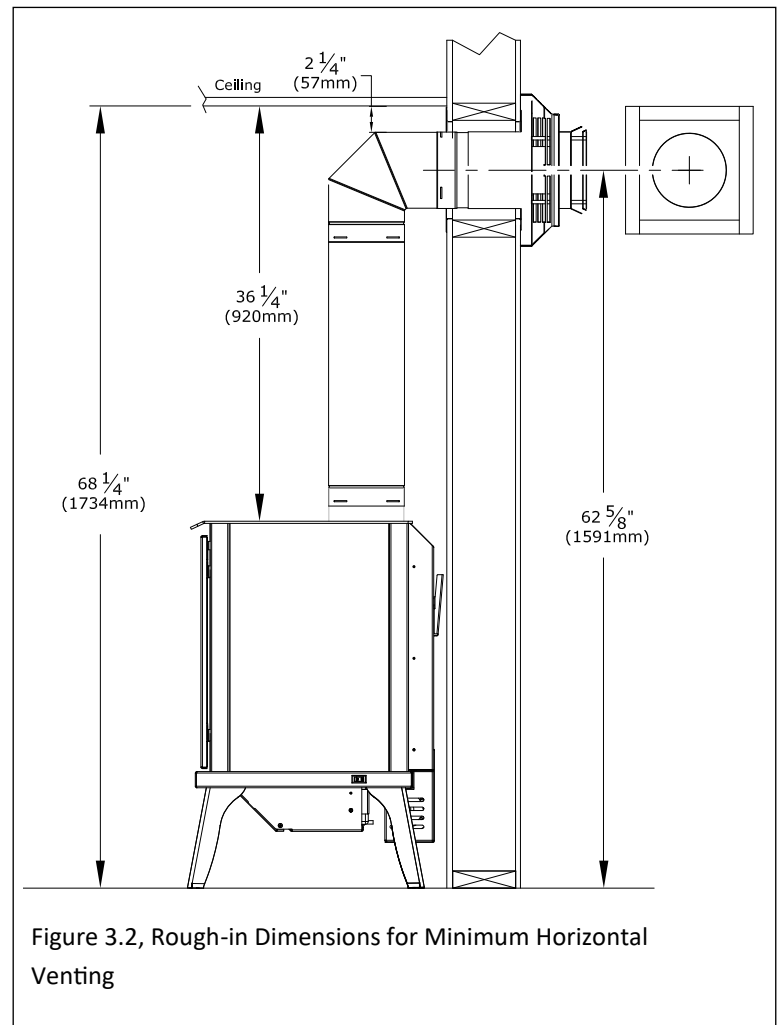

Figure 3.2, Rough-in Dimensions for Minimum Horizontal Venting
1. Measure from floor level of the gas stove to the center of where the vent pipe will penetrate the wall. The dimensions in Figure 3.2 is used with a Simpson DuraVent elbow.
- Rigid pipe dimensions in Figure 3.2 reflect Simpson DuraVent 4" x 6-5/8" coaxial pipe. Other manufacturers product dimensions may vary.